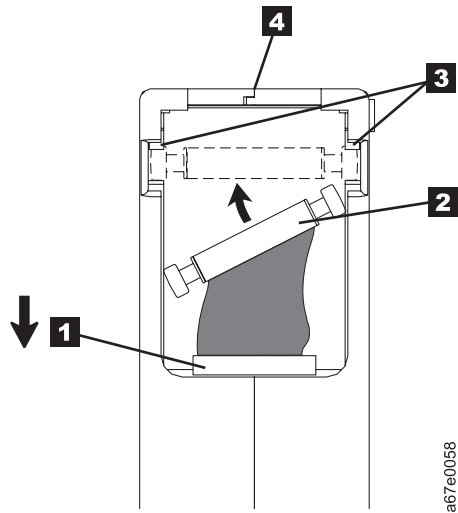

Figure 41. Placing the dislodged leader pin into the correct position.. The cartridge door is open to show the leader pin.
1. Slide open the cartridge door (**1** in Figure 41 on page 232) and locate the leader pin **2**. You may need to shake the cartridge gently to roll the pin toward the door.